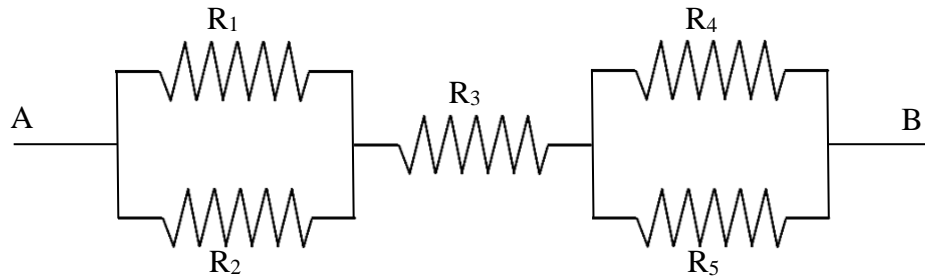

Figure 2.2: Parallel-Series Resistance Circuit
4. Mount the circuit as shown in figure 2.2 on the bread board.